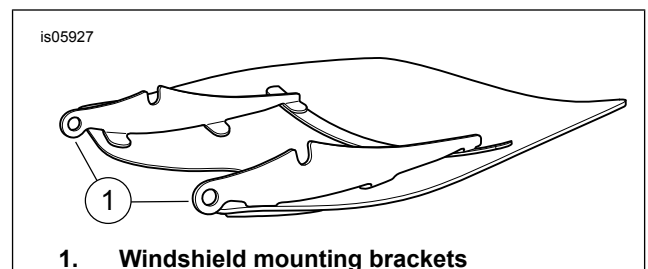

Figure 1. Windshield Mounting Brackets
1. See Figure 1. Remove the windshield sub-assembly from the packaging and place face down on a clean, soft surface with the mount brackets facing up.